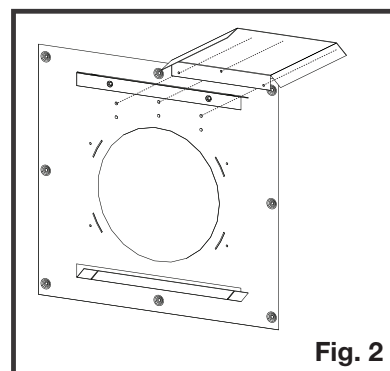

Fig. 2
2. Install one vent shield onto the standoff on one side of the firestop spacer (**Figure 2**).